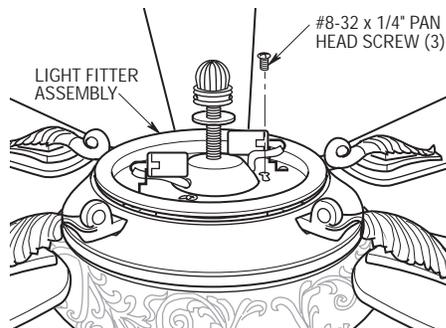

Figure 10
- 5. Position the light fitter assembly so that the three holes align with the one hole and two keyhole slots in the light kit adapter plate (Figure 10).
- 6. Attach the light fitter assembly to the light kit adapter plate by securely installing the three #8-32 x 1/4 inch pan head screws (supplied in the loose parts bag) (Figure 10).